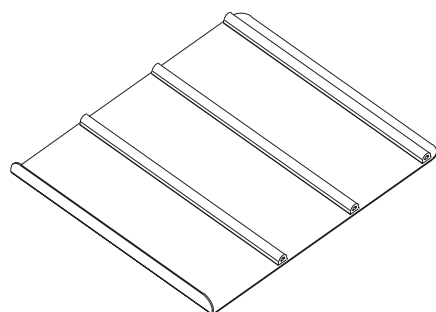

Fig 8. Standard strip holder adapter.
When using the IPGphor standard strip holders or the IPGphor cup loading strip holders a foam pad lid adapter (Fig 8) must be used to apply the correct amount of pressure to the tops of the IPGphor strip holders and keep them in contact with the IPGphor power supply pads. If running only one IPGphor strip holder a second IPGphor strip holder must be placed on the opposite side of the lid adapter to maintain the adapter in a level position.
The IPGphor lid must be modified before using the manifold system. The three (3) foam pads on the lid must be removed (Fig 9). Once removed, any adhesive remaining on the lid must be cleaned off. The foam pads are NOT replaced on the lid. After lid modification, the lid adaptor (Fig 8) must be used when running IPGphor strip holders.